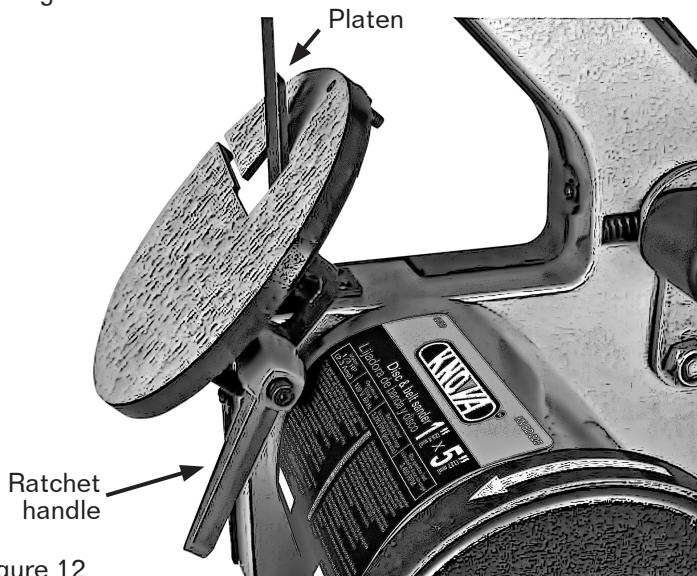

Figure 12
Refer to Figure 12.
- Finishing curved edges: Finish outside curves on the flat portion of abrasive belt. To finish inside curves, remove the belt platen (shown in Figure 12). The belt can flex a small amount to sand soft curves and arcs on workpieces.